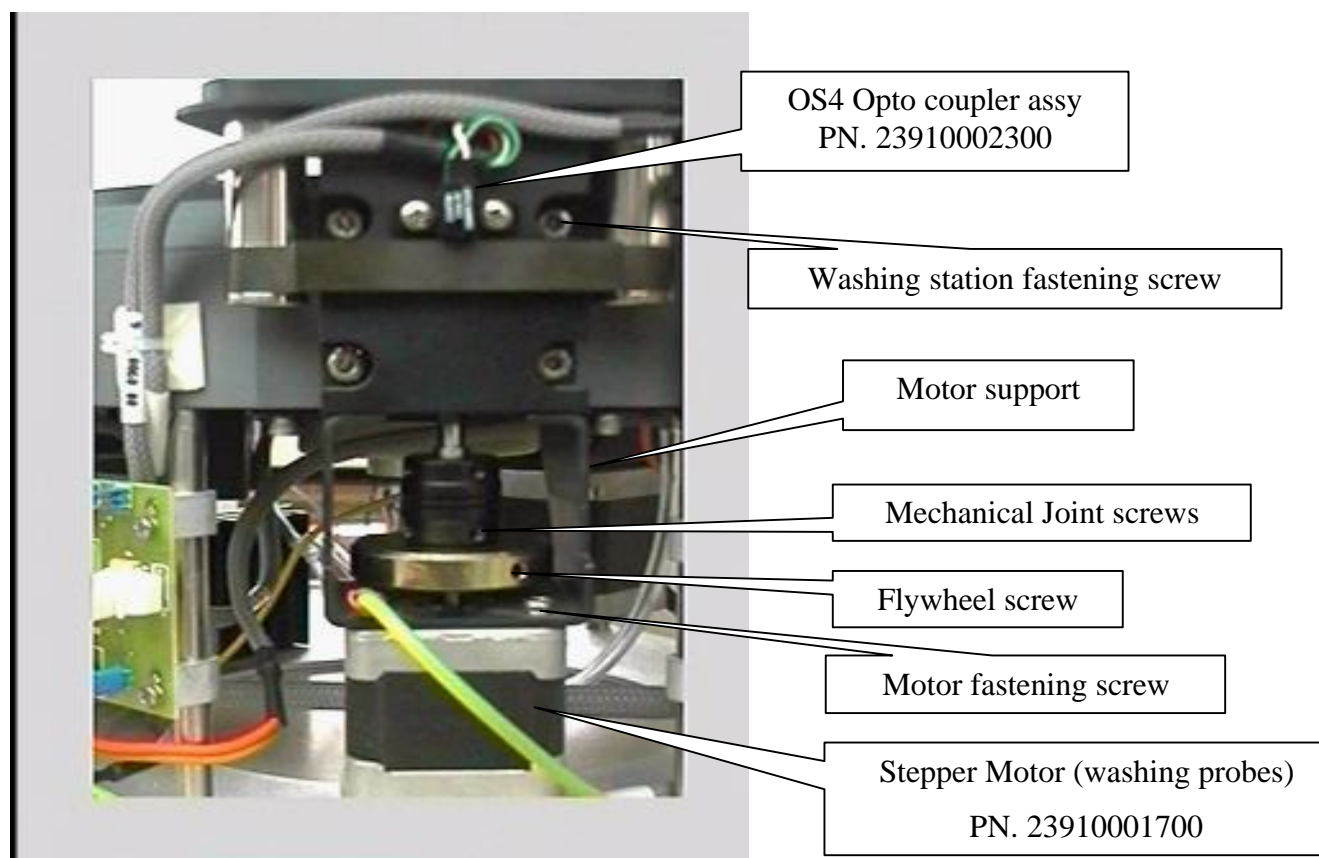

Fig. 3 Washing Station probes assembly PN. 23910000600
9. Unscrew the four fastening screws on the washing station assembly (Fig. 3).
6. Unscrew the two fastening screws on the optic sensor and substitute it with the new one (Fig. 3).
6. Loosen the two flywheel and motor joint screws (Fig. 3).
7. Unscrew the four fastening screws on the motor support and remove it (Fig. 3).
8. Unscrew the four fastening screws on the motor, substitute it with the new one (Fig. 3).